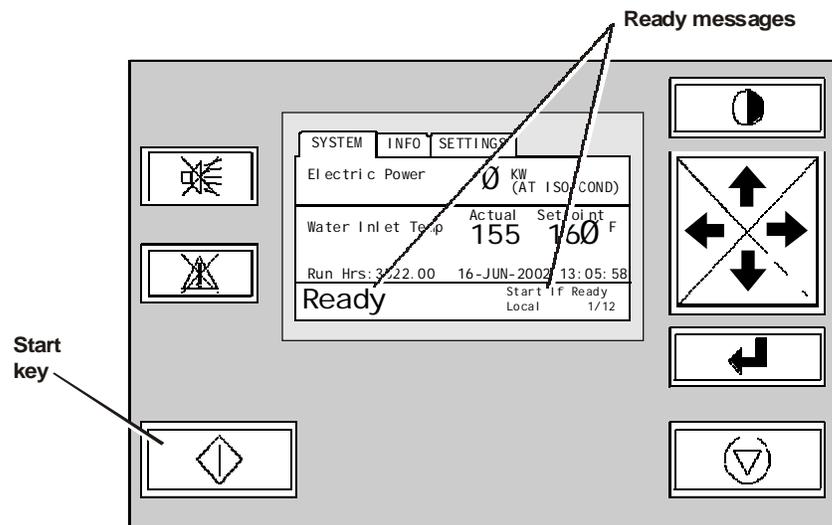

Figure 32. Ready-to-start indicators on control panel
- 2 Verify that the status bar on the graphic display indicates “Ready” and “Start if ready” (Figure 32).
- 3 Press the Start key (Figure 32).